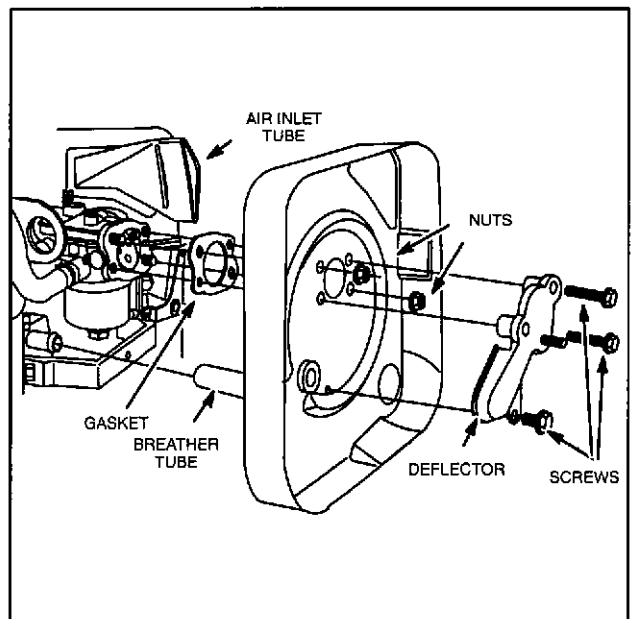

Fig. 84 - Installing Base (Current Style)
**Current style:** Place air cleaner base gasket onto carburetor mounting studs. Guide breather tube onto nipple on breather and install air cleaner base on carburetor mounting studs. Install carburetor mounting nuts, Fig. 84. Do not tighten nuts at this time. Now, install breather deflector and three screws. Torque nuts and screws to 7 Nm (65 in. lbs.). Make sure air inlet tube is installed correctly in air cleaner base.